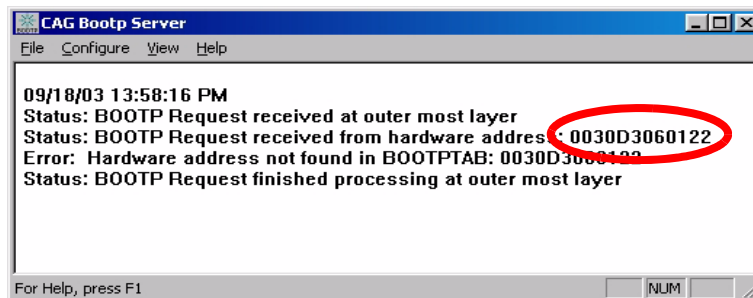

Figure 19 Bootp Server
- 3 Now turn on the module with the LAN Interface and view the Bootp Server window. After some time the Bootp Server will display the request from the LAN Interface with the hardware (MAC) address (this information is also stored in the file trace.txt in the bootp server directory, if Log to Disk is enabled), see Figure 19 on page 32.
- 4 Identify your LAN Interface by the MAC address, see Figure 19.
When using this **Bootp** mode, the parameters are not written into the non-volatile memory of the card. If you delete this Bootp Configuration, the LAN Interface will show up as shown in Figure 19 on page 32 (**Bootp** mode).